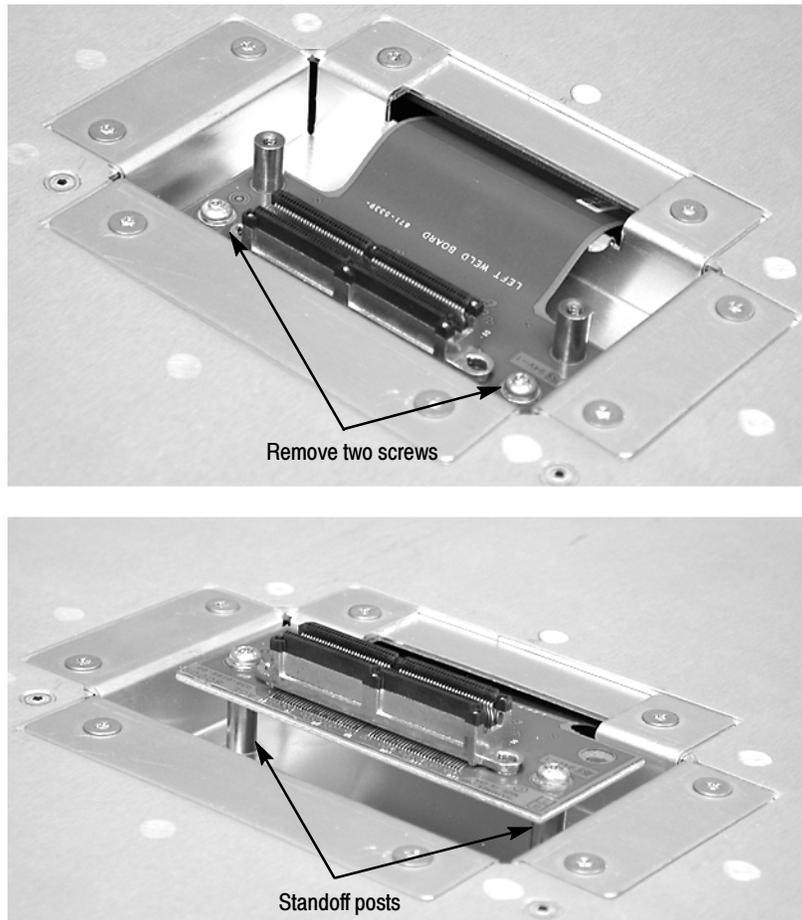

Figure 18: Removing the merger connector assembly from the module
2. Using a Torx T-10 screwdriver, remove the two screws holding the merge connector to the module (see Figure 18).